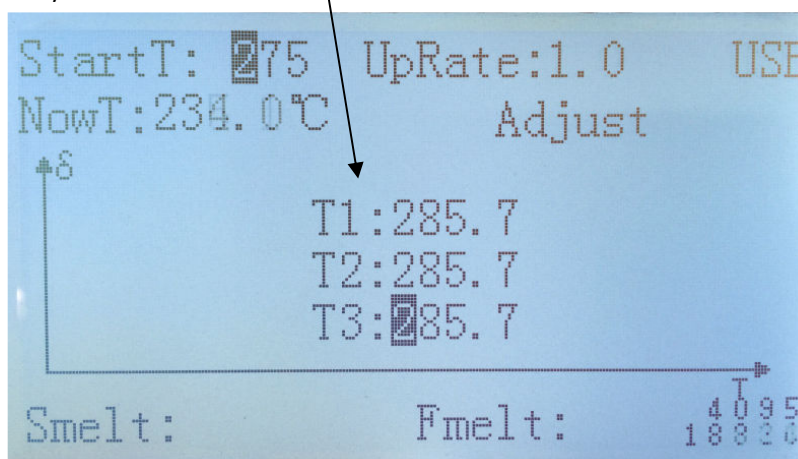

Figure 12
5) The third point third order calibration (See Figure 12):